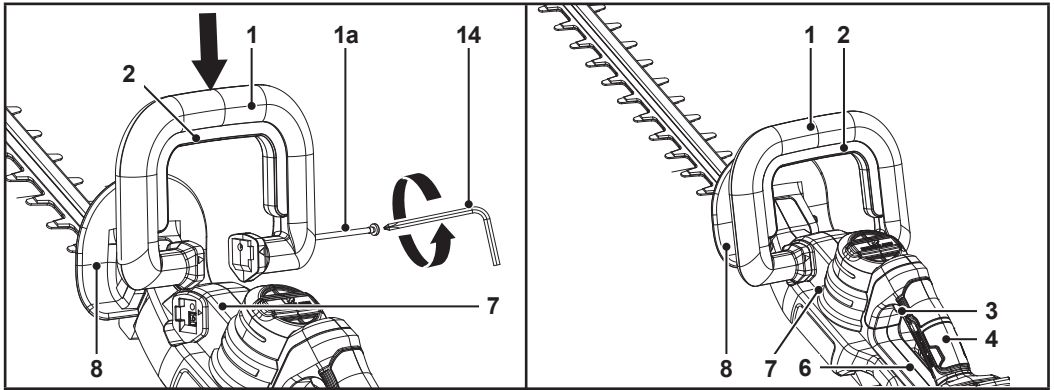

Fig. 1
1. Use the hex key/crosshead screwdriver (14) to remove the long bolt (1a) from the front handle (1) (Fig. 1).
2. Position the front handle (1) so that the arrows at the ends point to the intakes of the housing (7) (Fig. 1).
3. Slide the front handle (1) into the intakes of the housing (7) until it locks in space (Fig. 1).
4. Fix the front handle (1) with the long bolt (1a) and the hex key/crosshead screwdriver (14) (Fig. 1).
**Front safety guard (8), rear guard (6):** These guards protect your hands against flying, bouncing and sharp parts of the trimmed branches (Fig. 1).